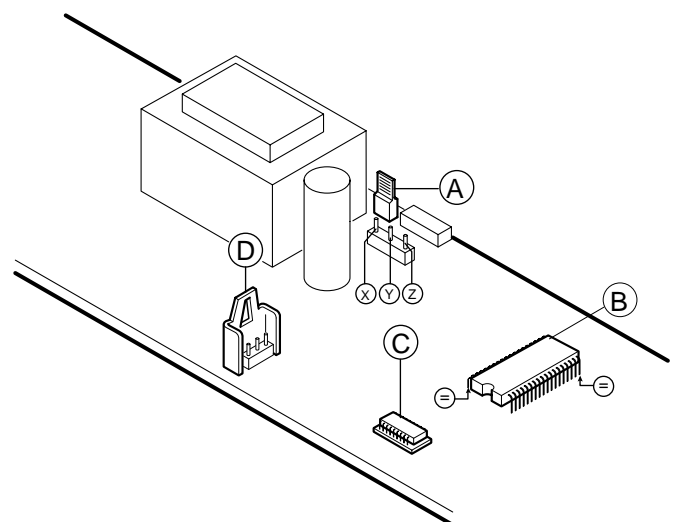

Fig. 3
MOTHER BOARD (Fig. 3)
- The position of the jumper "A" (fig.3) located near the transformer. This jumper must be inserted between the contacts X and Y on levels 2 and 3 and the contacts Y and Z on levels 4 to 6 and ACTIVE COMBI.
To remove integrated circuits from their seat, insert a screwdriver into the space between the chip and its base (fig3) and lever slightly (first from one end and then from the other) in order to free the chip from its base without damaging the pins.